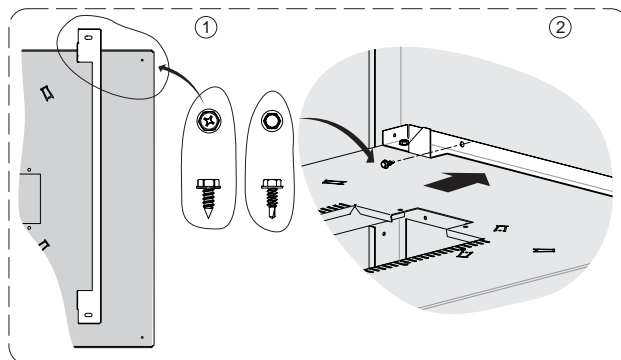

Figure 62
4. Screw the brick bracket to the false floor (but do not tighten) with the screws shown on the left side of **Figure 62** (Vent / Pilot side liner only).
5. Use the self-drilling screws shown on the right side of **Figure 62** to attach the brick bracket to the firebox wall.